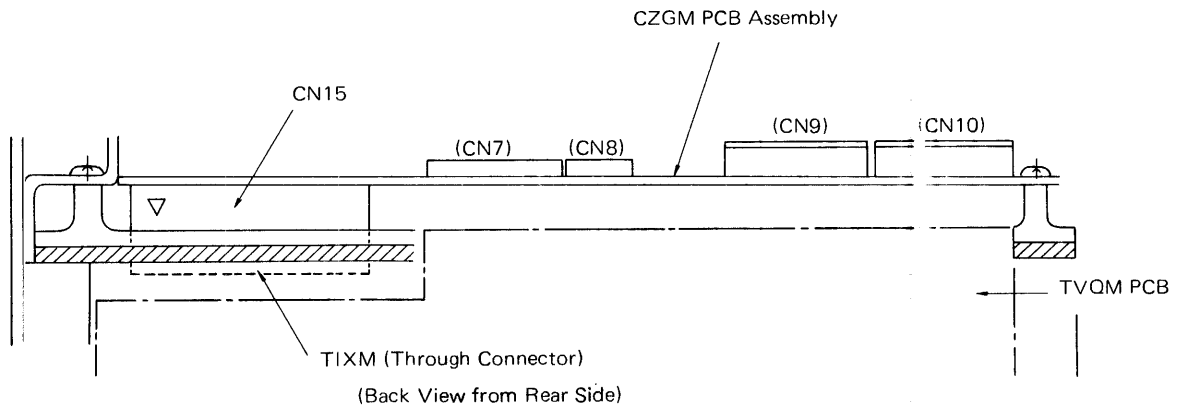

Figure 6-5-4 TIXM Connection
(1) Removal
- (A) Loosen screws "B".
- (B) Raise the CZFM PCB Assy. by lifting up the upper side-frame.
- (C) Disconnect wiring (CN5, CN6, CN7, CN8, CN9, and CN10).
- (D) Remove six screws, and lift out the CZGM PCB Assembly. Be careful not to damage CN15 on the TIXM (Through Connector). The TIXM is connected to the CZGM PCB assembly at the back of the board. Refer to Figure 6-5-4. CN15 will be disconnected by lifting the CZGM PCB assembly.